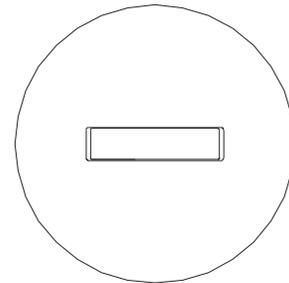

Fig. 8
8. Break the protective label in the center of the rough-in cover to expose a slot. See Fig. 8